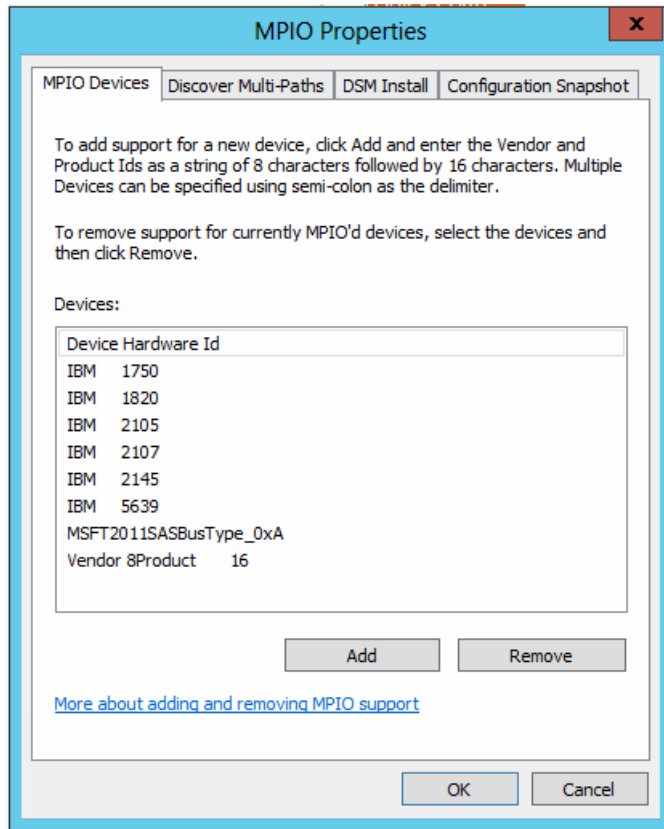

Figure 6-29 Checking MPIO support: Windows 2012
6. Type yes to reboot your host and activate the driver. When the system restarts, go into the Server Manager Dashboard, select **Tools** → **MPIO**, and view the MPIO drivers, as shown in Figure 6-29.